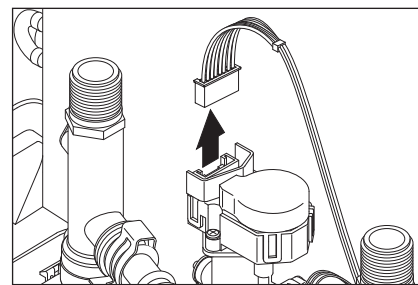

Figure 23 - Disconnecting 8 Pin Wire Harness
- 11** Disconnect the 8 pin wire harness located on top of Smart Valve as shown in Figure 23. Place wires aside in a safe location so they are not damaged.